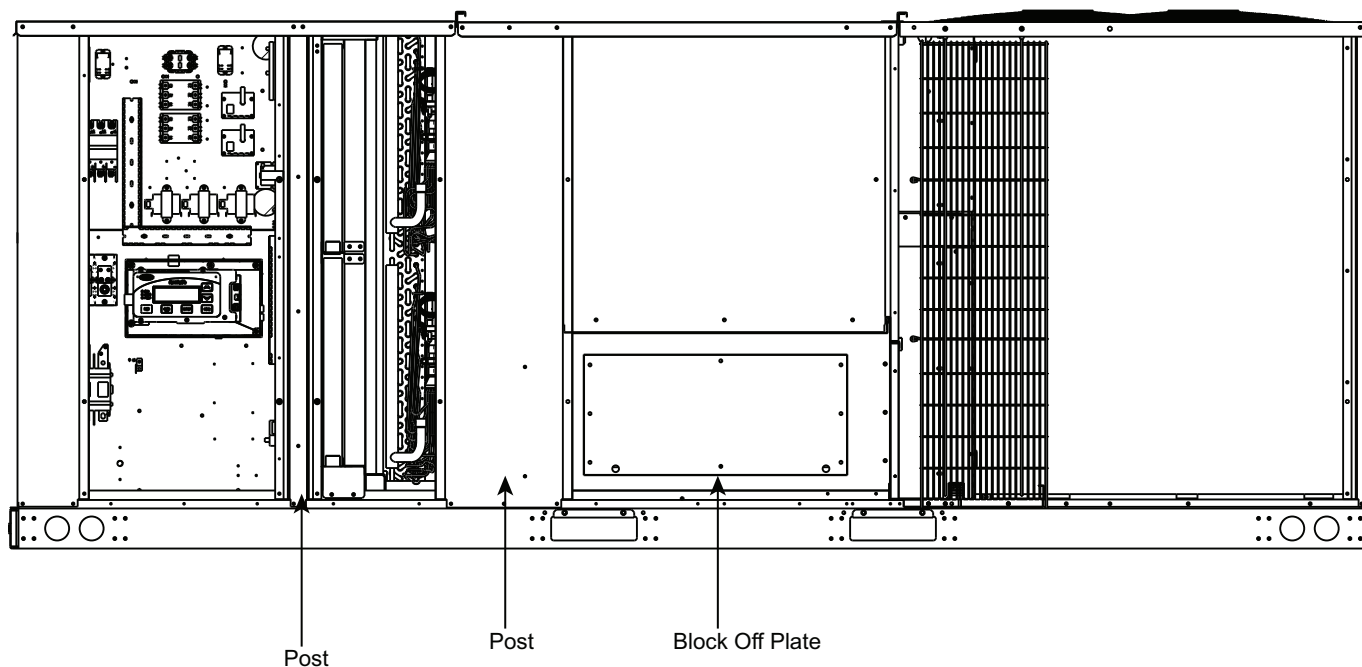

Fig. 40 — Block-Off Plate and Post Locations
3. Remove the block-off plate and save screws. Remove post adjacent to control box and post located between filter access and blower access. (See Fig. 40.)